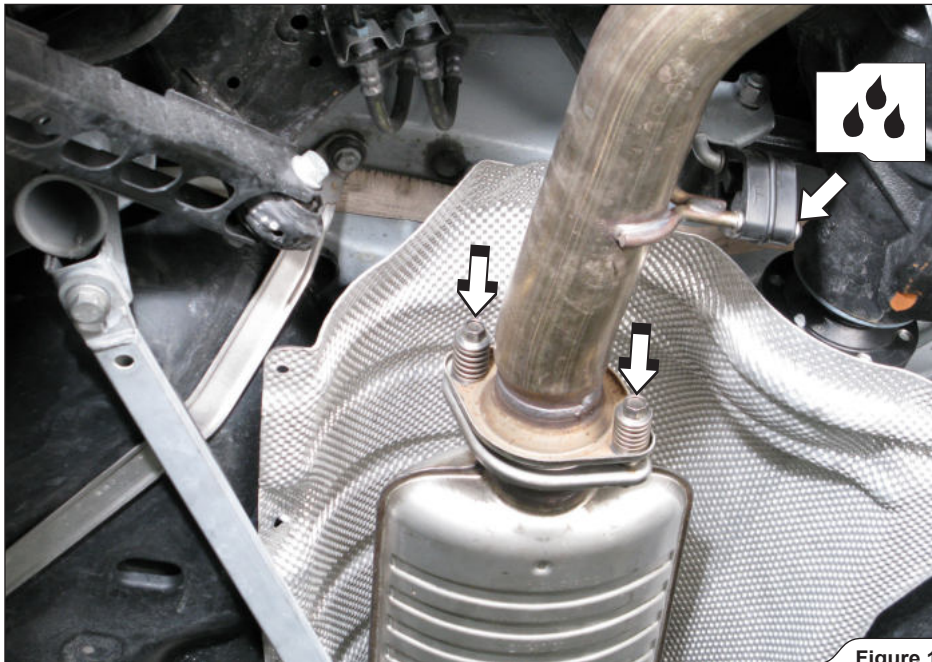

Figure 1
1. **For Slip-On:** unscrew the marked flange bolts and carefully pull the rubber bracket off the pipe's bracket (**Figure 1**).